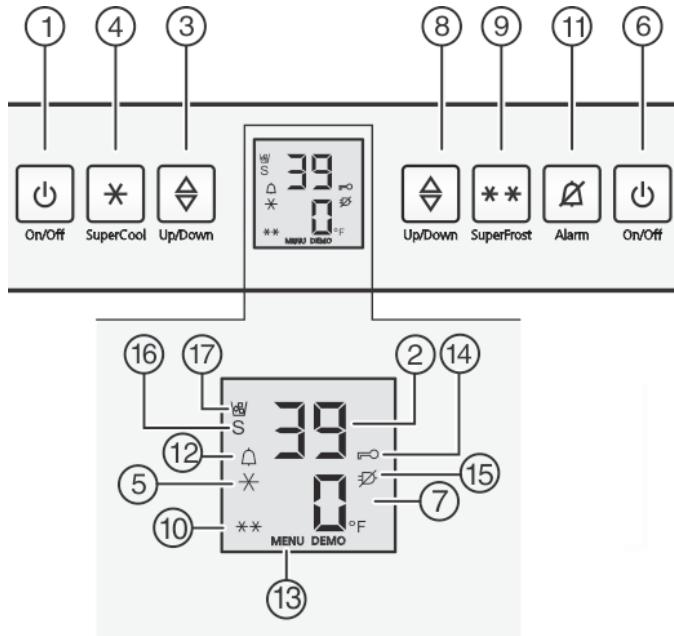

Fig. 3
- Press the Freezer compartment On/Off button Fig. 3 (6).
- Press the Fridge compartment On/Off button Fig. 3 (1)
- Activate setting mode: Press SuperFrost button Fig. 3 (9) for about 5 seconds.
- The Menu symbol Fig. 3 (13) lights up.
- Use the Set freezer compartment button Fig. 3 (8) to select °.
- To confirm: Briefly press SuperFrost button Fig. 3 (9).
- Select °F oder °C with the Freezer compartment set button Fig. 3 (8).
- To exit setting mode: Press Freezer compartment On/Off button Fig. 3 (6).
- To activate setting mode: Press and hold the SuperFrost button Fig. 3 (9) for approx. 5 seconds.
- In the display, the Menu Symbol Fig. 3 (13) is displayed.
- Use the Set freezer compartment button Fig. 3 (8) to select **c**.
- Confirm briefly by pressing the SuperFrost button Fig. 3 (9).
- The Child Safety symbol Fig. 3 (14) lights up on the display.
- Press the freezer compartment On/Off button Fig. 3 (6) briefly.
- Press Alarm button Fig. 3 (11).
At the same time, the Alarm symbol Fig. 3 (12) will flash.